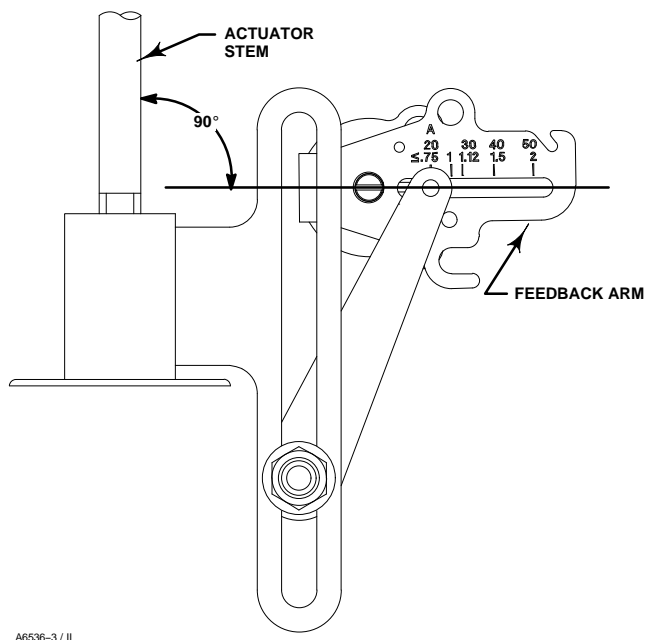

Figure 5-1. Crossover Point
4. If you selected Analog as the crossover adjustment source, the Field Communicator prompts you to adjust the current source until the feedback arm is 90° to the actuator stem, as shown in figure 5-1. After you have made the adjustment, press OK and go to step 6.
Select the direction and size of change required to set the feedback arm so it is 90° to the actuator stem, as shown in figure 5-1. Selecting large, medium, and small adjustments to the crossover causes changes of
2. If the feedback connection is Rotary - All, SStem - Roller, go to step 6. If the feedback connection is SStem - Standard, you are prompted to set the crossover point. Adjust the current source until the feedback arm is 90° to the actuator stem, as shown in figure 5-1. Then press OK.
4. From the adjustment menu, select the direction and size of change required to set the feedback arm so it is 90° to the actuator stem, as shown in figure 5-1. Selecting large, medium, and small adjustments to the crossover causes changes of approximately 10.0°, 1.0°, and 0.1°, respectively, to the feedback arm rotation.